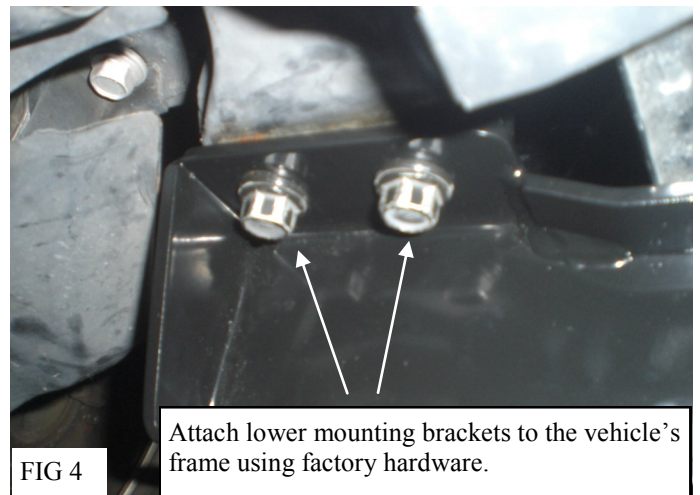

FIG 4
5. Take the drivers side lower mounting bracket and attach it where the tow hook was previously installed and attach it using the factory hardware. Do not fully tighten at this time. Repeat for the passenger side. FIG 4